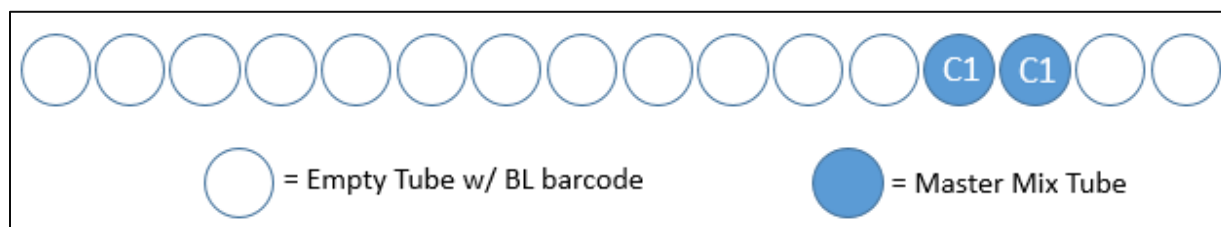

Figure 1 - Master Mix Rack
4.	<p>Master Mix Rack (see Figure 1):</p> <ul style="list-style-type: none"> Place two uncapped tubes (with "C1" barcodes) containing equal volumes of master mix in positions 3 and 4. Place empty tubes (with unique "BL" barcodes) in positions 1-2 and 5-16.